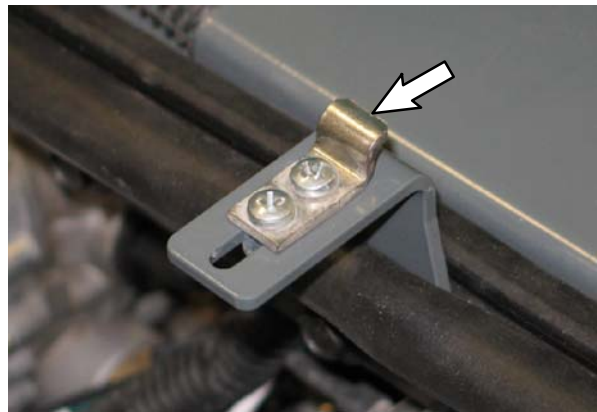

FIG. 74
90. Use two pan screws (97) and two hex nuts (9) to install the saved latch onto the shroud latch bracket (34). (Fig. 74)